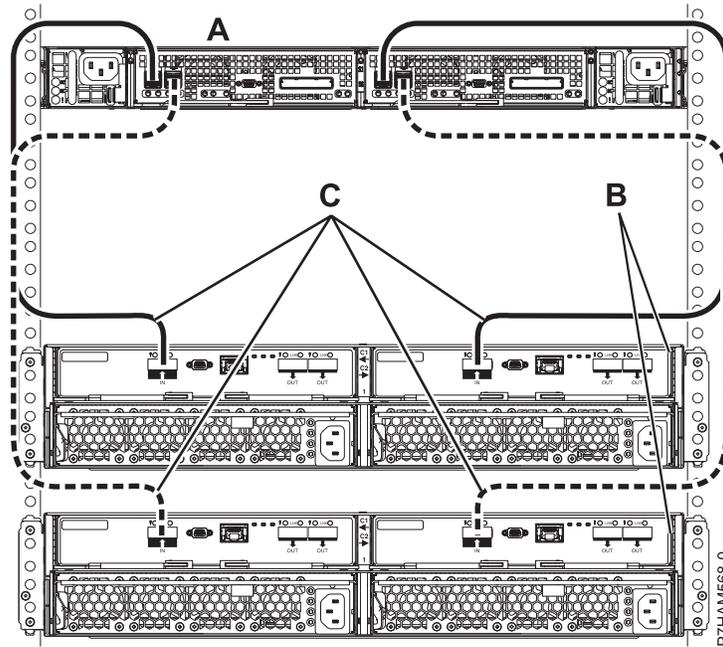

Figure 40. Mode 1 connection of two 58/87 disk drive enclosures by using EX cables to a PCIe storage enclosure
14. Perform the mode 1 connection of two 58/87 disk drive enclosures (**B**) by using EX cables (**C**) to a PCIe storage enclosure with support for SAS disk drawers (**A**) as shown in Figure 40.
- Both EX cables (**C**) from the same 58/87 disk drive enclosure must be attached to the same numbered SAS port on the PCIe storage enclosure as shown in Figure 40.